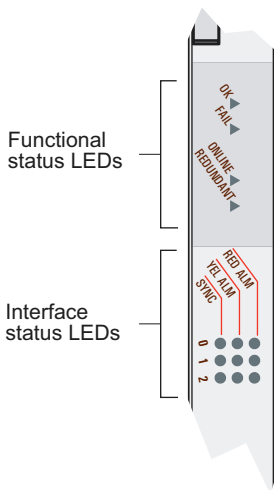

Figure 8-3 E3 and T3 module LEDs
- Other line modules (Figure 8-3)